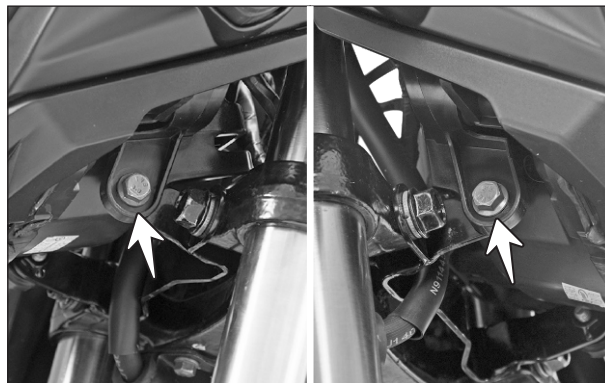

Fig. 2.78
- Loosen both side bottom mounting hexagonal flange bolt of housing head lamp and tilt the housing head lamp forward. (Fig. 2.78)